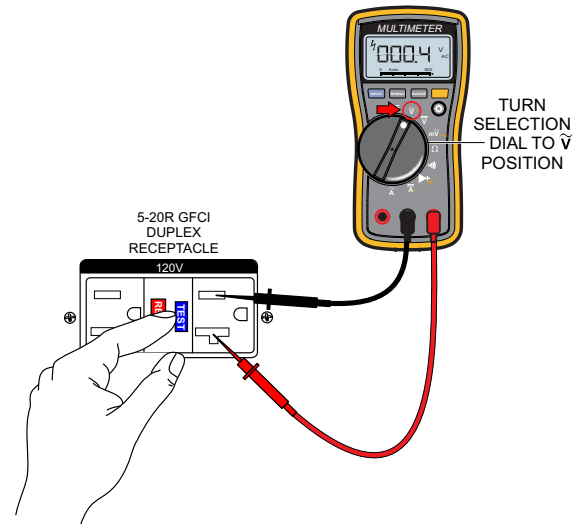

Figure 40. GFCI Breaker (Test)
5. Next, press the **test button** (Figure 40) on the GFCI receptacle and verify that the voltmeter reading is **ZERO** volts.